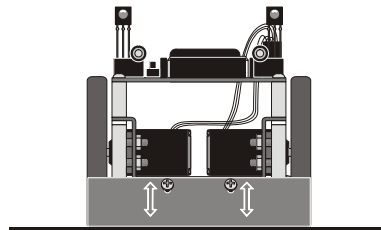

Figure 1-2
The plow is held to the chassis by two screws shown in Figure 1-2. Each screw passes through a slot in the plow. Adjusting the plow is a simple matter of loosening the two screws, changing the plow's position, then retightening the screws. Each slot only has a few millimeters of wiggle room. Even so, the slight adjustments you can make to the plow's height and tilt can make a big difference in performance.
- √ Start by adjusting each plow so that it is flush to the sumo ring's surface along its whole length, as shown in Figure 1-2.